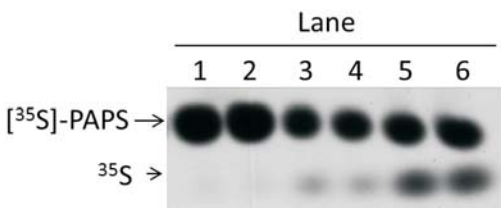

Figure 2. [^{35}S]-PAPS samples separated on an 8% SDS polyacrylamide gel.
7. Develop the film or phosphorimager plate, and identify the positions of free ^{35}S and [^{35}S]-PAPS (figure 2).